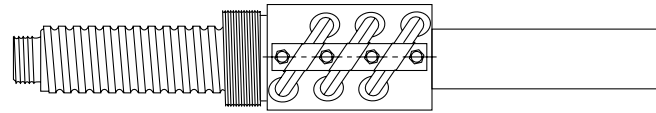

Figure 8
2. Slide the ball nut down to the screw shaft and rotate to the thread until you feel the balls drop into the screw thread. Then rotate with the screw thread until the ball nut completely clears the end of the screw shaft adjacent to the arbor. (Figure 8.)